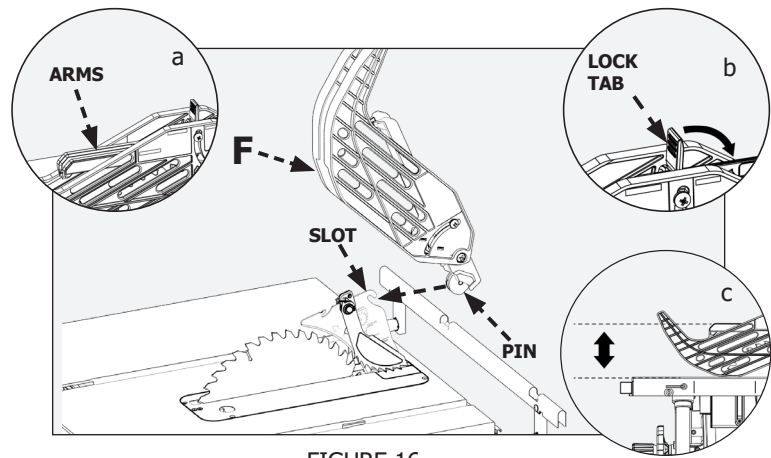

FIGURE 16
While holding the blade guard assembly (F) in a vertical position, as shown in FIGURE 16, pull the blade guard assembly pin all the way up into the rear slot on the riving knife.